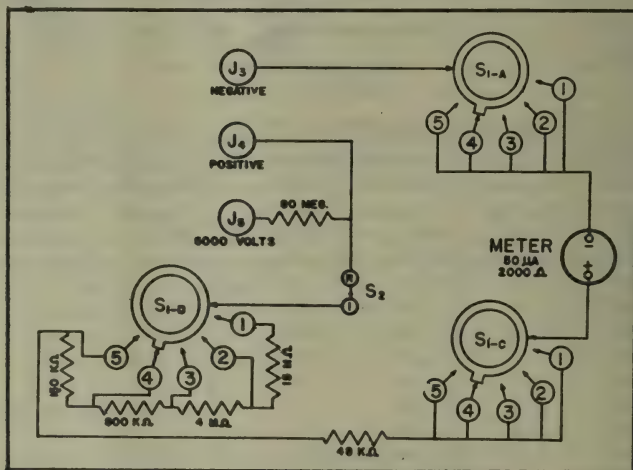

FIG. 3 DC VOLTAGE CIRCUIT
Fig. 3 is a schematic diagram of the internal connections for resistance measurement. Note that the function switch, S2 is set at DC-OHMS (1) when the instrument is to be used as an ohmmeter. The three positions of the RANGE switch, S1 shown are as follows: 10 -- RX1, 11 -- RX100, 12 -- RX10K. Sections S1-A and S1-C shunt the meter in order to increase the current necessary for full scale deflection (this obviously lowers the center scale resistance readings). The purpose of the Zero Adjust (10K ohm) potentiometer is to compensate for variations in the battery terminal voltage and resistance. Section S1-D supplies the circuit with the correct voltage according to the range used.